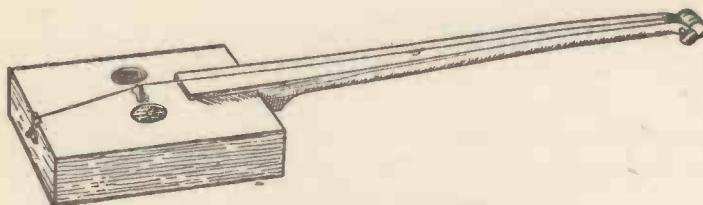

Fig. 1.—The completed Japanese Fiddle.
**Making the Body.**—Before you begin to work on the body you will find that the bottom of the box will eventually be the "belly" or upper surface of the fiddle, and the lid will be the back or bottom. With a sharp centre-bit or a fret-saw cut two holes, 1 in. wide and  $1\frac{1}{2}$  in. apart, in the belly. Then in one of the end pieces cut a square hole measuring  $\frac{1}{2}$  in. by  $\frac{1}{2}$  in. and  $\frac{3}{4}$  in. from the upper edge. In the other piece cut a hole  $\frac{1}{2}$  in. by  $\frac{3}{8}$  in. and  $\frac{7}{8}$  in. from the edge, as shown at Figs. 1 and 2. The fingerboard is next made, as follows, from a straight-grained